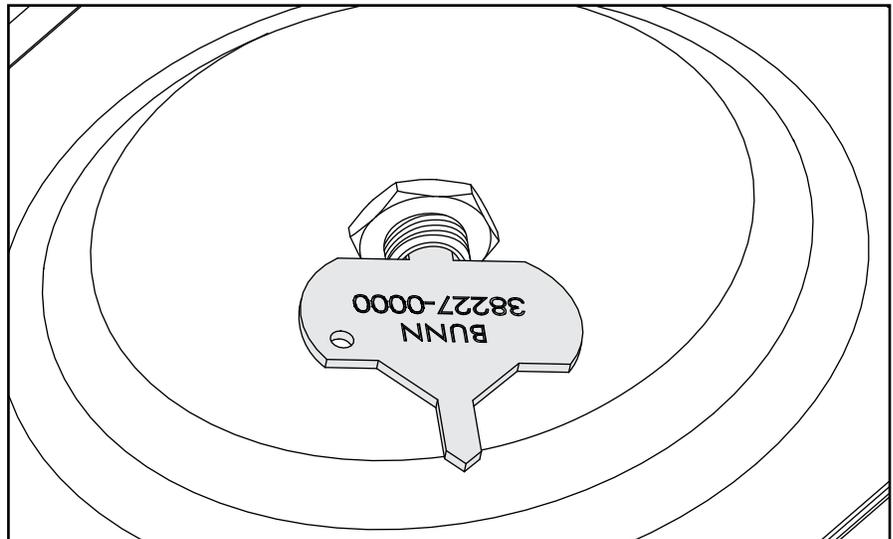

FIGURE 2
3. Insert the long end of sprayhead cleaning tool into the sprayhead fitting, and rotate several times to remove any mineral deposits from the fitting (Refer to Fig 2).